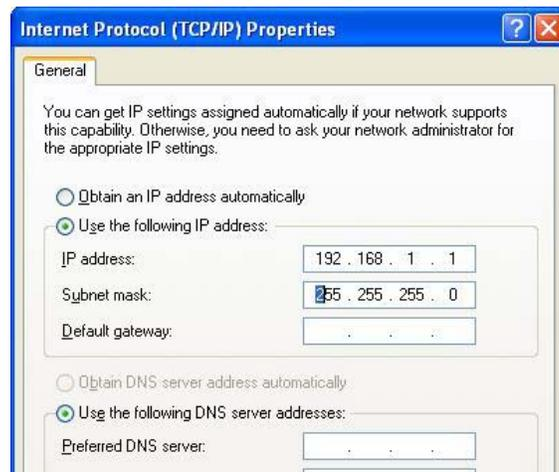

Figure 22
8. Select the **Use the following IP address** radio button. See figure 22